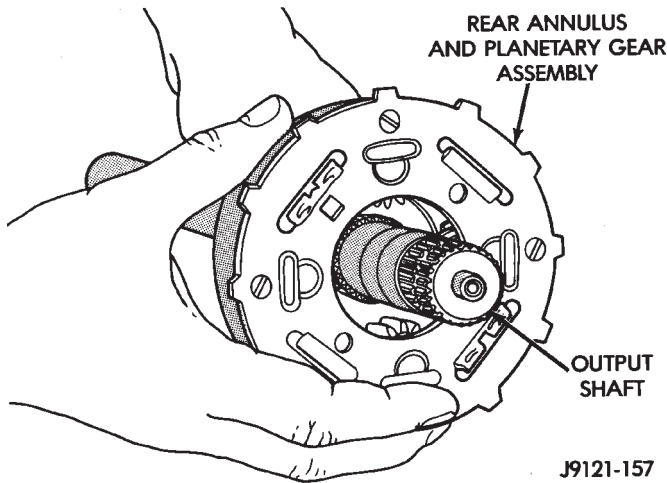

Fig. 86 Installing Rear Annulus And Planetary On Output Shaft
(5) Install assembled rear planetary and annulus gear on output shaft (Fig. 86). Verify that assembly is fully seated on shaft.